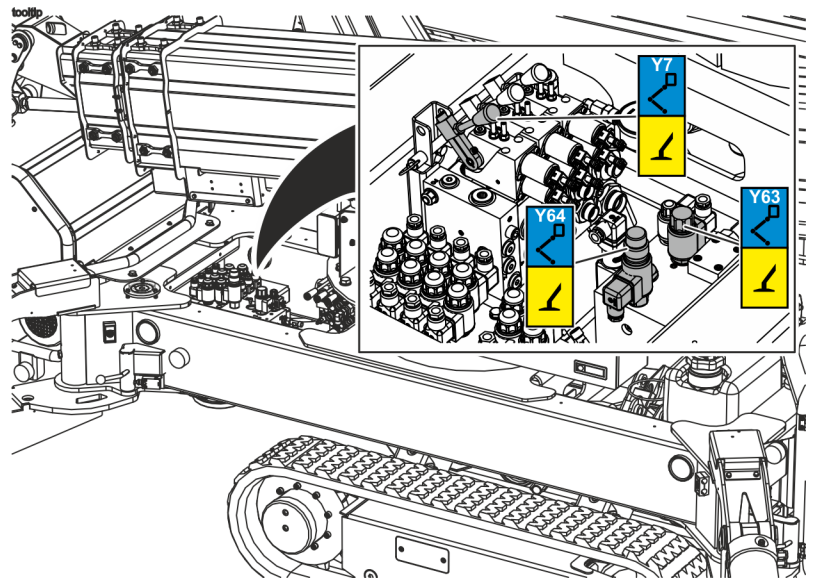

Fig. 177: Valves for outriggers
Release the valve (Fig. 177/Y7) after emergency mode.
11. Screw the release valve (Fig. 177/Y63) all the way in and completely unscrew and remove the pressure relief valve (Fig. 177/Y64).
- Make sure that for normal mode the valves (Fig. 177/Y63, Y64 and Y7) are in the initial position.